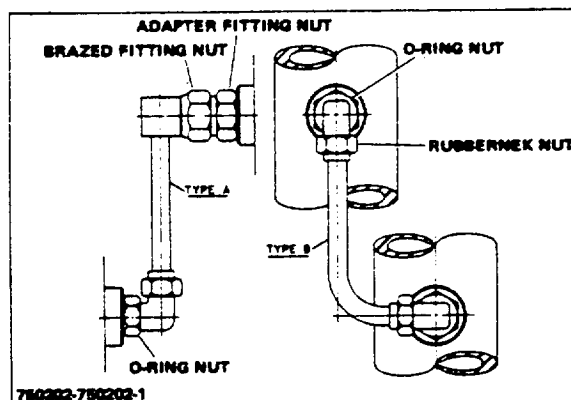
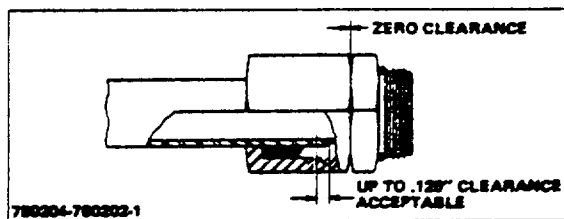

Figure 3-2. Type A and B Tube Assemblies
Figure 3-3. Assembled Rubberneck Fitting
- a. Type "A" tube has a brazed fitting on one end (Fig 3-2).
- (1) Slip tube into Rubberneck fitting.
- (2) Thread nut of brazed fitting over male adapter on cylinder; tighten to its recommended torque.
- (3) Tighten O-ring of Rubberneck fitting to its recommended torque.
- (4) Tighten Rubberneck nut until it comes to a hard positive stop against the connector. There is to be zero clearance between the nut and the connector (Fig 3-3).
- b. Type "A" tube has a Rubberneck fitting on each end (Fig 3-2).
- (1) Slip the short end of the tube into the lower Rubberneck fitting.
- (2) Remove the nut from the upper Rubberneck fitting and slip over the long end of the tube.
- (3) Swing tube and lower fitting, so that, longer end of the tube can be slipped into the upper fitting.
- (4) Apply pressure on the lower portion of tube until it bottoms within the fitting. Maintain pressure on the tube and tighten the Rubberneck nut until it comes to a hard, positive stop against the connector. There is to be zero clearance between nut and connector (Fig 3-3).
- (5) Tight O-ring nuts of both fittings to their recommended torque.
- (6) Apply pressure on the upper portion of tube until it bottoms within fitting. Maintain pressure on tube and tighten the Rubberneck nut until it comes to a hard, positive stop against connection. There is to be zero clearance between nut and connector (Fig 3-3).